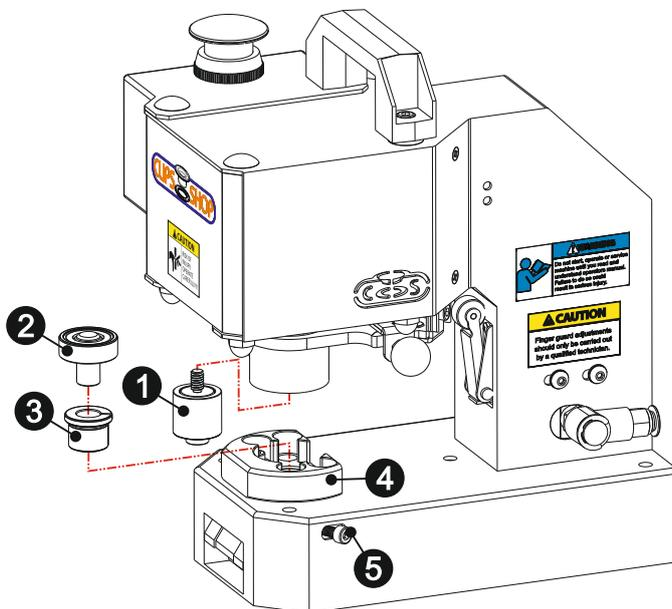

fig. 12
6) Make sure there is no air in the system. Attach the upper die ① to the upper die adaptor by manually rotating. Once the acrylic safety guard blocks, pull the manual starting mechanism downwards to access the upper die ① to securely fix it. Attach the lower die ② to the lower die holder ④ and securely fix the screw ⑤ to stabilize the position of the lower die (fig. 12). **Note:** The die installation procedures may change depending on the type of die set you would like to use. i.e. In case of the need of the regular die installation, before locating the lower die ②, first attach the lower die bush ③ to the lower die holder ④. Please refer to the "Die and Accessories Compatibility Guide" and "Die Installation" sections for further information about the installation necessities of different type dies.